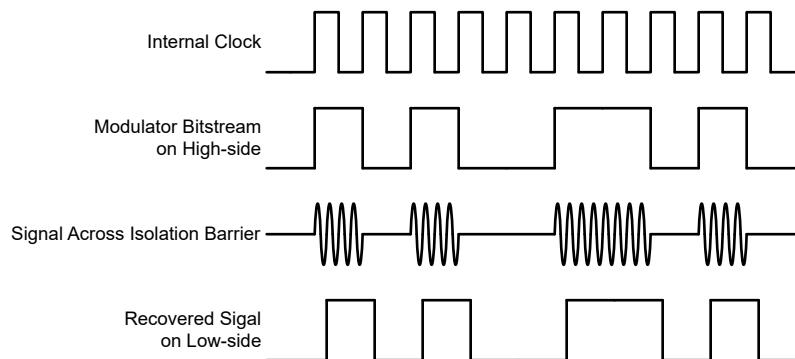

Figure 7-1. OOK-Based Modulation Scheme
As shown in Figure 7-1, the AMC0x11D uses an on-off keying (OOK) modulation scheme to transmit the modulator output bitstream across the SiO_2 -based isolation barrier. The transmit driver (TX) is illustrated in the *Functional Block Diagram*. TX transmits an internally generated, high-frequency carrier across the isolation barrier to represent a digital one. However, TX does not send a signal to represent a digital zero. The nominal frequency of the carrier used inside the AMC0x11D is 480MHz.